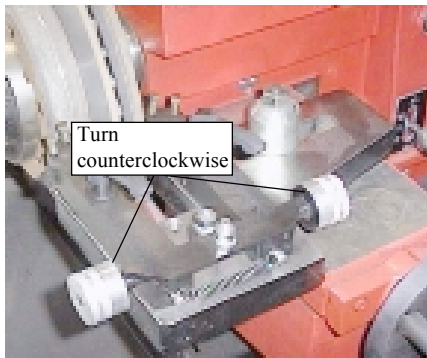

Figure 38
16. Prepare to remove the rotor by turning the micrometer dial wheel counter-clockwise until the cutters clear the rotor and silencers. See Figure 38.